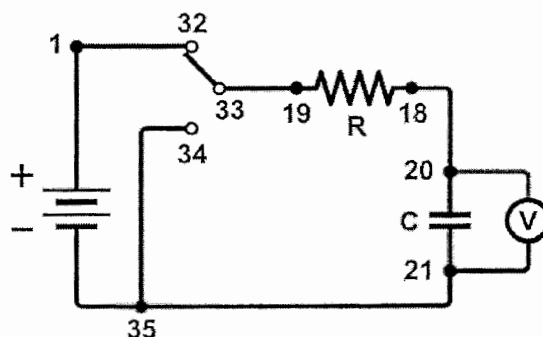

Figure 1
- a. Connect the circuit using the 10 μF capacitor and the 100 $\text{k}\Omega$ resistor, as shown in Figure 1. **Note:** The numbers in the figure refer to the numbered terminals on the Vernier Circuit Board.